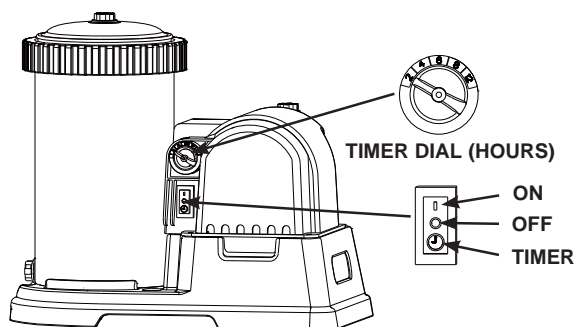

FIG 10
- A. Set the timer dial to the desired operating hours. See operation time table. See Fig. 10